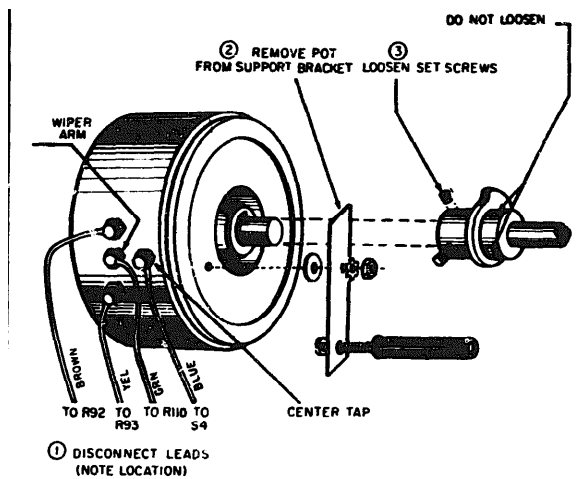

Figure 5-5. Detail Showing Reflector Potentiometer Removal
5-32. To replace reflector potentiometer R96, refer to Figure 5-5 and proceed as follows:
- e. Loosen setscrews on mode-switch cam located between cam and potentiometer. DO NOT LOOSEN setscrews between mode-switch cam and frequency drive casting (see Figure 5-5).